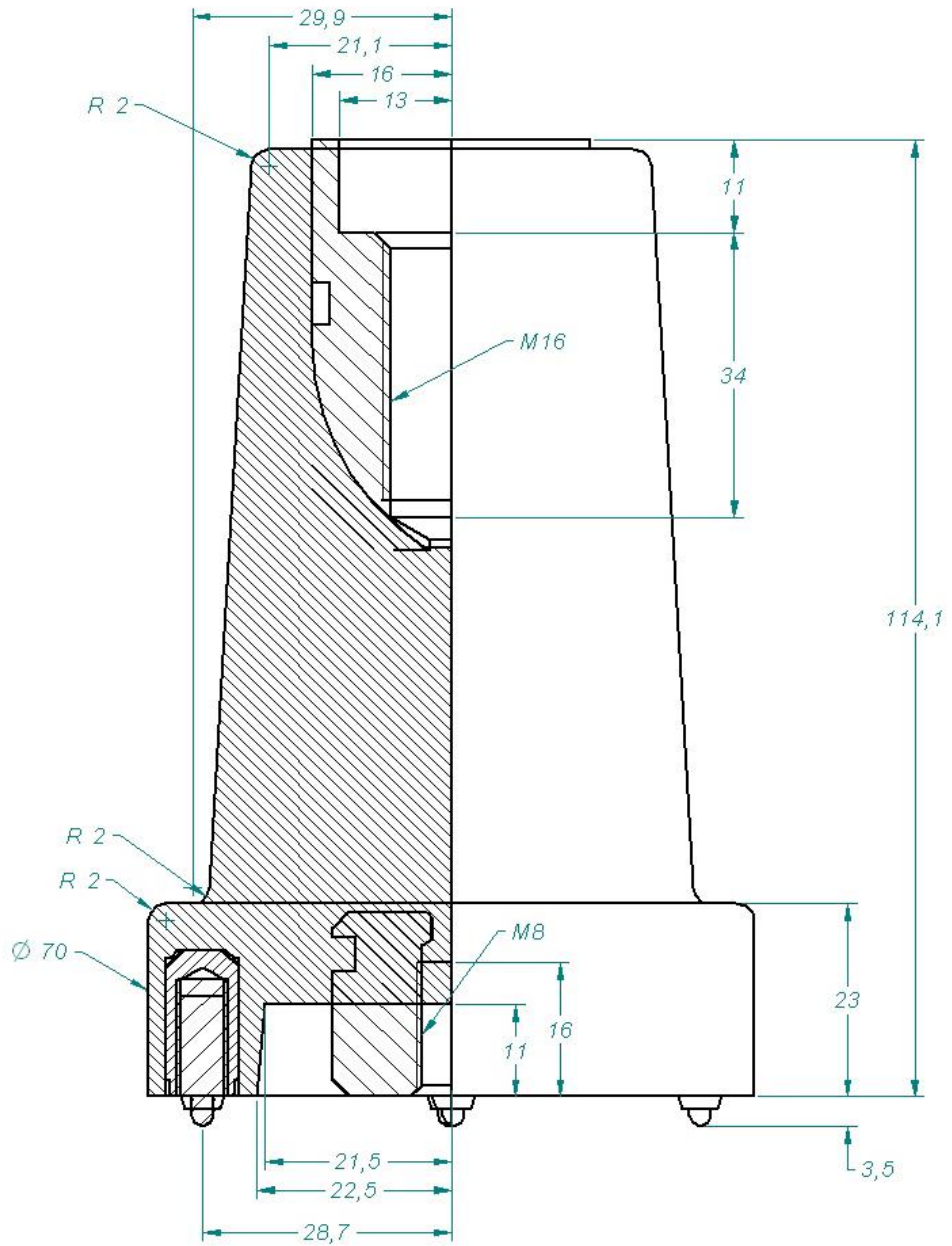

Figure 7 Dimensions of ACA-RC block
Dimensions of ACA-RC (4) block	See Figure 7